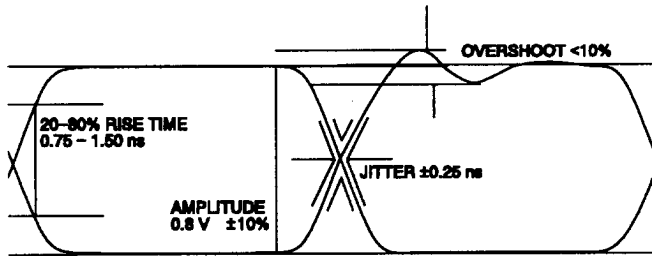

Fig. A-7. Eye pattern specs for the serial signal. Displays the amplitude, jitter, overshoot, and rise and fall times.
- Connect the equipment as shown in Fig. A-7.
- a. Connect the equipment as shown in Fig. A-7.